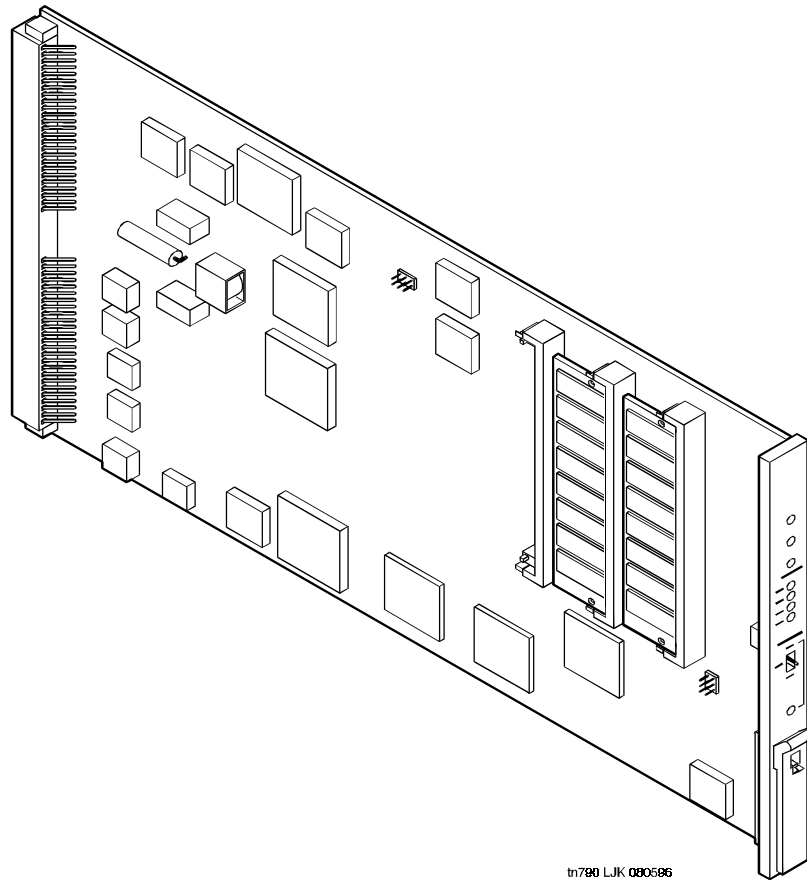
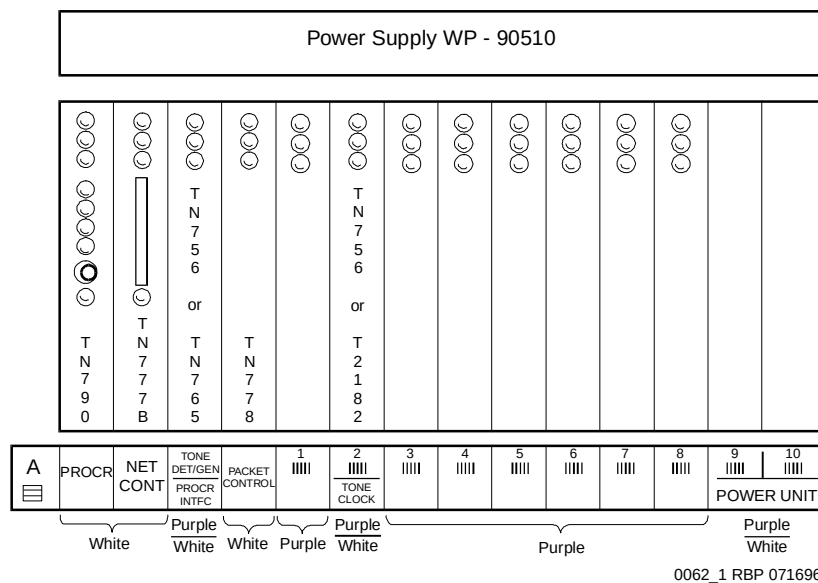

Figure 1-2. TN790 Processor Circuit Pack
Figure 1-3. DEFINITY ECS R5vs Compact Single-Carrier Cabinet (J58890S)
2. Install the TN790 processor circuit pack into the control-cabinet slot labeled "PROCR". See Figure 1-2 for an illustration of the TN790 processor circuit pack. See Figure 1-3 for an illustration of the DEFINITY ECS R5vs compact single-carrier cabinet (J58890S) for circuit pack placement locations.